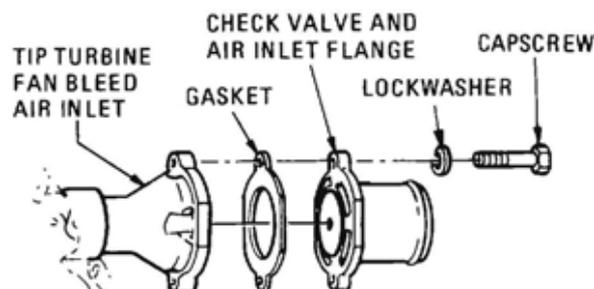

**Figure 37 Series Charged Air Cooling Flow Diagram**
55. A two stage, or series, charge air cooling arrangement, combining a water-to-air heat exchanger with an air-to-air heat exchanger, is fitted to the vehicle. This combination heat exchanger lowers the temperature of the air coming from the turbocharger to the inlet manifolds by about 100 °C (180 °F). The coolant for the water-to-air heat exchanger is drawn off the top of the water pump, circulated through the core and returned to the cooling system via the oil cooler end cap (Figure 37).